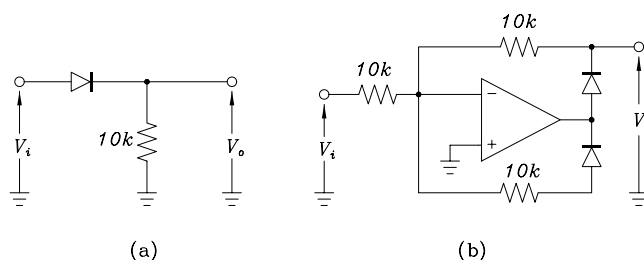

Figure 7: (a) Simple rectifier and (b) precision rectifier
- (28) Display V_o -vs- V_i on the oscilloscope for the circuits of Fig. 7(a) and (b) using a triangular input waveform. Carefully compare the behaviour of the characteristics for V_i near 0 V . Observe that the circuit of Fig. 7(b) exhibits idealised diode characteristics and is known as a **precision rectifier**.
- (29) Explain the operation of the circuit of Fig. 7(b). (It may be helpful to observe the waveforms at various points in time synchronisation.)